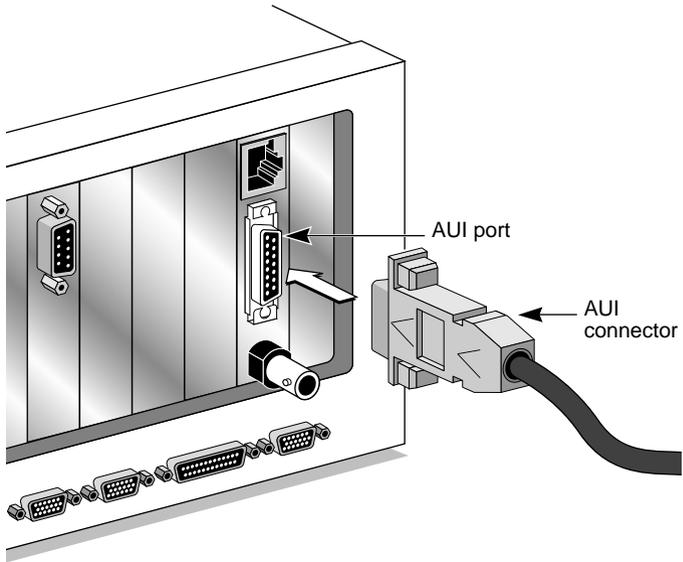

Figure 2-4 Connecting the 3C509B-COMBO NIC Using the AUI Port
- 2 Connect the cable to the AUI port on the NIC, as shown in Figure 2-4.**